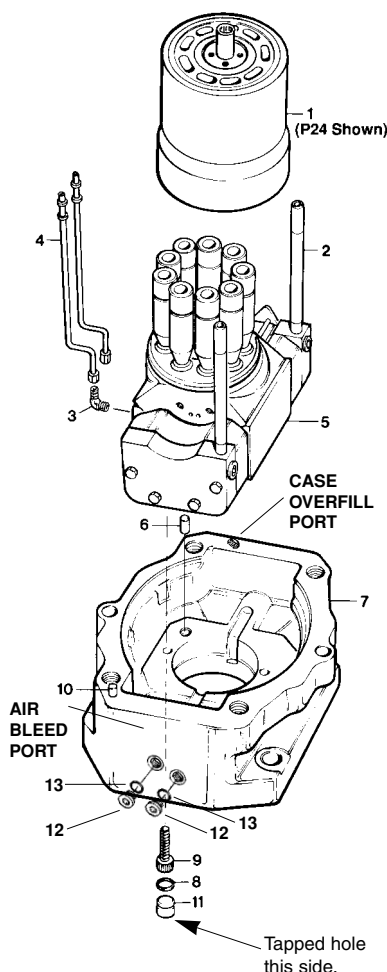

FIGURE 3
See figure 3. Install two elbow fittings (3) into the threaded holes in the cradle.
PARTS LIST FOR FIGURE 3
Install the housing assembly (4) over the barrel and auxiliary shaft assembly. Carefully guide the override tubes and pressure feed tubes items 2 and 4, figure 3 through the housing assembly. Position the pressure feed tubes in the slots in the housing face.